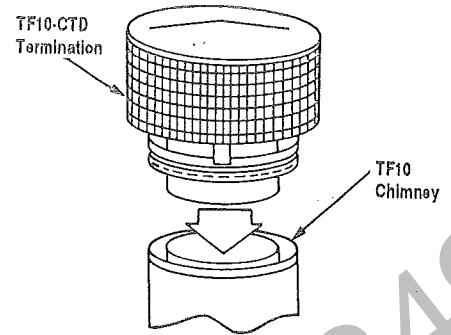

Figure 34
- 1) Hold CTD over top of last chimney section (Figure 34).